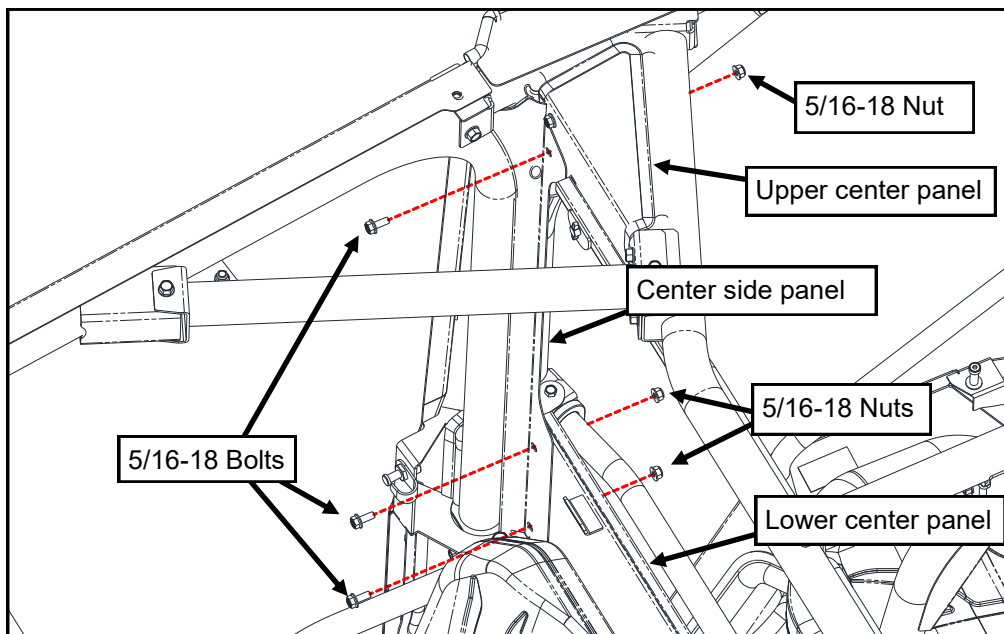

Figure 3.1: Center Side Panels
- 3.1 Place each side panel with the bulb rubber against the ROPS frame, in front of the upper and lower center panels (see Figure 3.1).